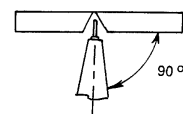

Figure 2.2
3. The electrode should be positioned at a 90° work angle and a 10° to 15° drag angle to perform the weld. (See Figures 2.2 and 2.3.)